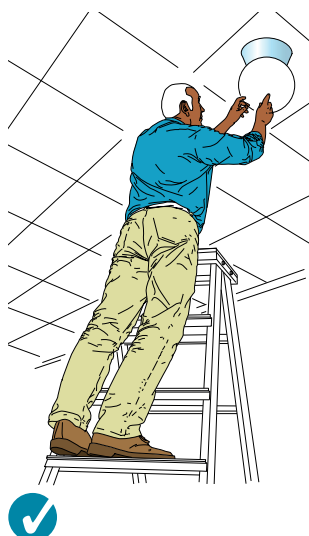

Figure 12 Correct - three clear steps. Don't work any higher up this type of stepladder
- don't use the top three steps of swing-back or double-sided stepladders, where a step forms the very top of the stepladder (see Figure 12);